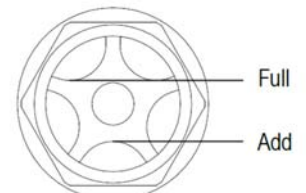

Figure 8
- 4) Start the unit and run for several minutes. Shut the air compressor down and check the oil level. If necessary, add more oil. (See Figure 8 at right.)